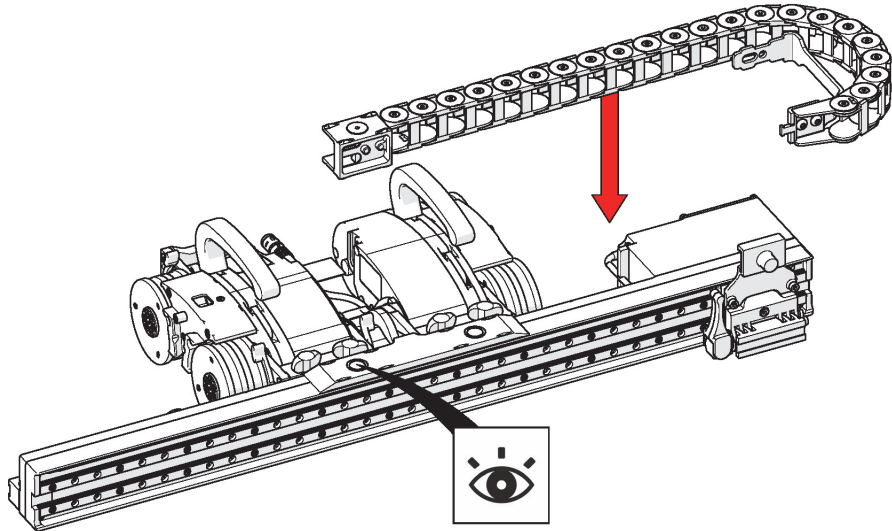

Figure 2-41 Attaching the cable tray
1. Attach the cable tray's magnetic end to the magnetic base on the raster arm. Ensure that the four divots are aligned with notches on the magnetic end (see Figure 2-41 on page 83).